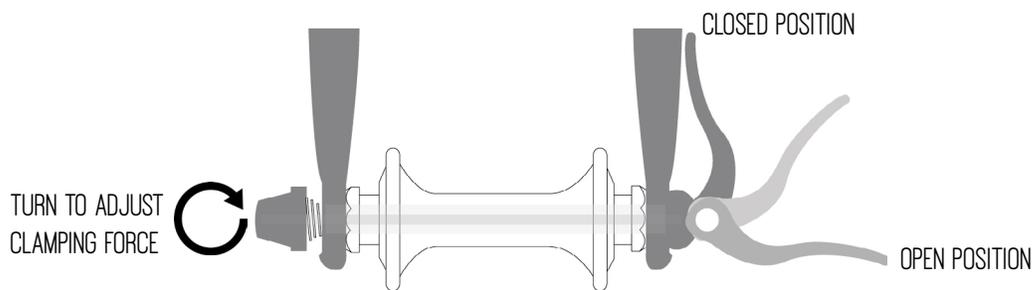

Figure 10
It is the power of the cam that maintains the wheel in place. It squeezes the wheel hub in between the fork arm ends or dropouts when switching the lever from the opened to the closed position. The tightening force depends on the torque applied on the adjusting nut. To increase the tightening force, you need to turn the adjusting nut clockwise while holding the lever with the other hand. To reduce it, turn the adjusting nut counterclockwise again holding the lever. Less than half a turn can make the difference between a safe and an unsafe tightening. The mechanism should emboss the dropout-ends when closed in the locked position. Refer to Figure 10.
- *Turn the quick release lever into the opened position as shown on Figure 10;*
- Turn the quick release lever to the opened position as illustrated in Figure 10
- Shift the rear derailleur on to the highest gear which corresponds to the smallest sprocket; Turn the quick release lever to the opened position, referring to figure 10. Place the wheel with the quick release positioned on the rear derailleur's opposite side;